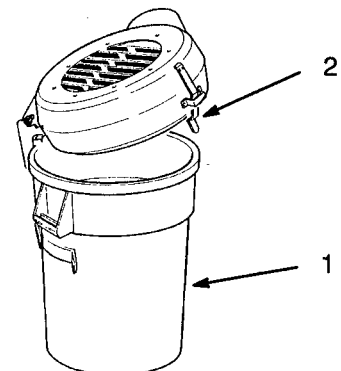

Figure 13
27. Raise top and install canister (Fig. 13). Lower top assembly and latch in place.